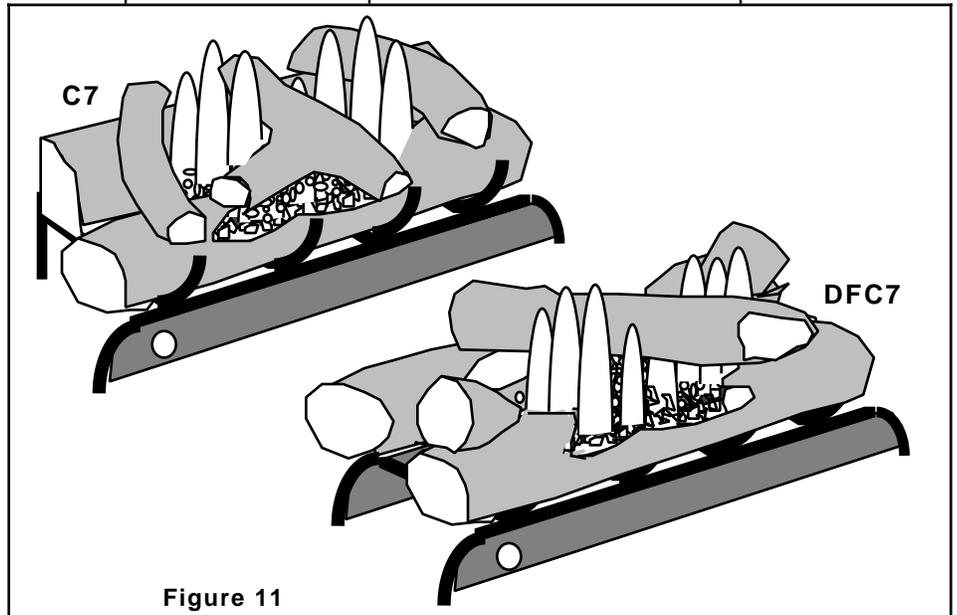

Figure 11
- A full bodied, lively flame. The flame will be blue at the base and a combination of blue and yellow at the body and tips. See Figure 11.